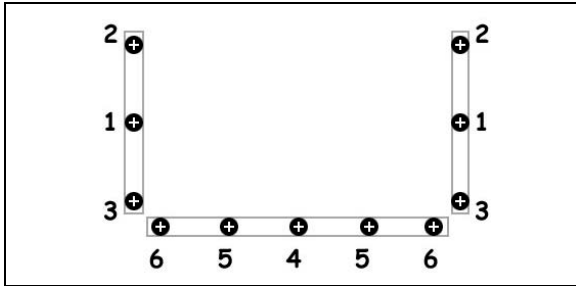

FIGURE 78 : CORRECT TIGHTENING SEQUENCE
6. While a helper is pressing on the window from outside, install the sliding window clamping frame and tighten screws according to the sequence shown in FIGURE 78;